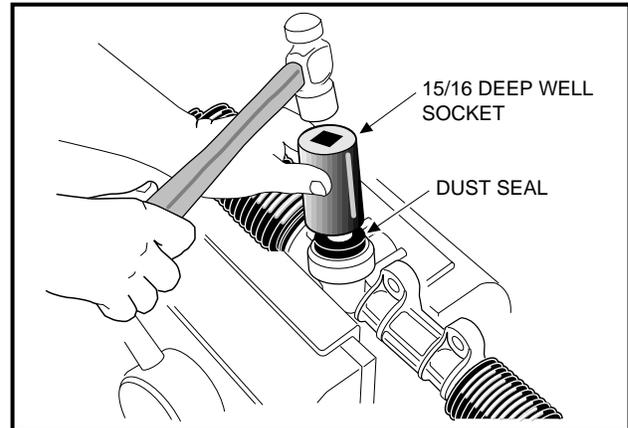

Figure 7-12 Press In Dust Seal
8. Using a socket to apply pressure evenly, press in a new dust seal (12) (**Figure 7-13, Page 7-11**). **See also Figure 7-12, Page 7-9.**